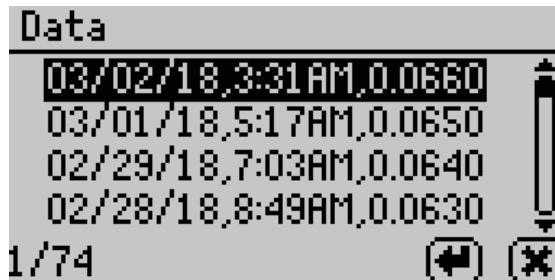

Figure 54 View data
- **View.** Select to view stored measurements with the most recent measurements at the top of the table (Figure 54). Use **UP** and **DOWN** to move through the stored data. Use **LEFT** and **RIGHT** to page quickly through the data. Refer to Section 3.3 for information about downloading these readings to a computer.